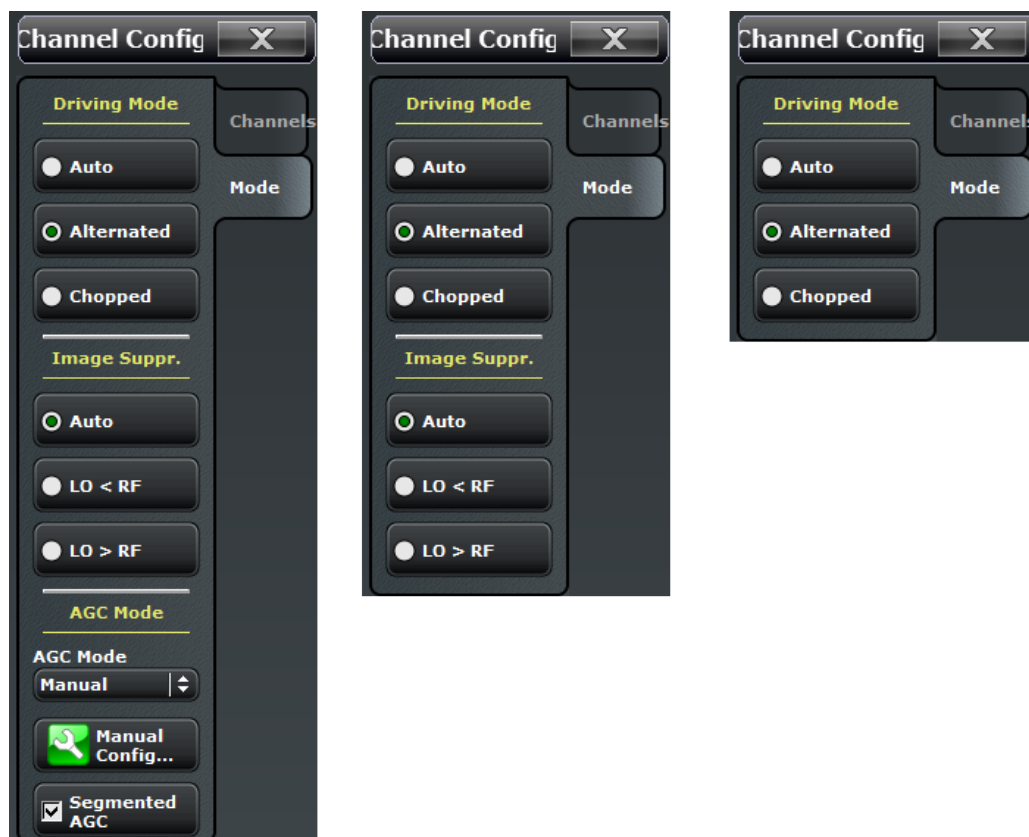

Figure 4-9: Channel Config > Mode softtool
**Note:** For the R&S ZND only the "Low Distortion" mode is available and hence the "AGC Mode" section is hidden (see Figure 4-9).
- For the R&S ZND only the "Low Distortion" AGC mode is available and hence the "AGC Mode" section is hidden (see Figure 4-9). In particular, there is no manual configuration option.